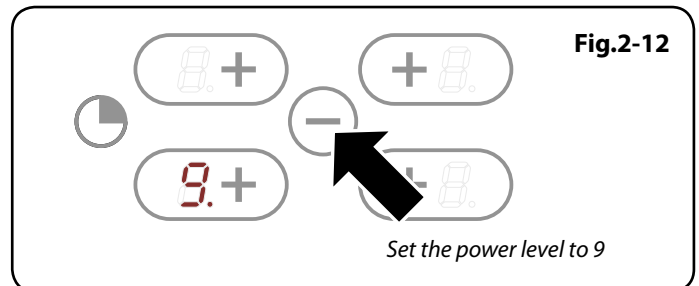

Fig.2-12
1. Press the '-' key to bring the element up to full power (**Fig.2-12**).